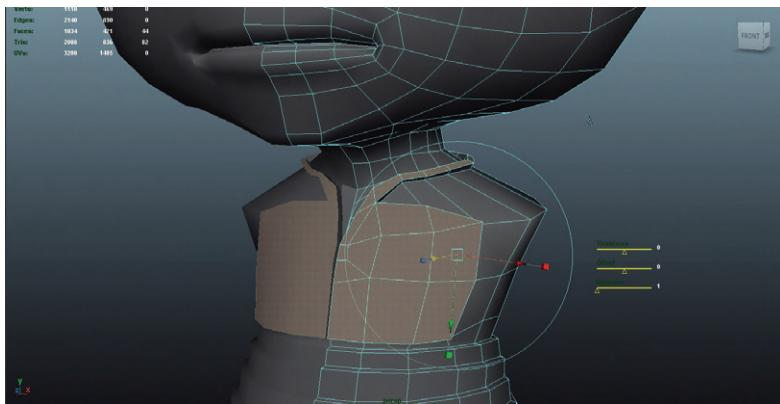

FIG 4.57 Extruding out new geometry to create raised breast plate and collar.
Step 75: Extrude out the beginnings of the breast plate and collar (Fig. 4.57).